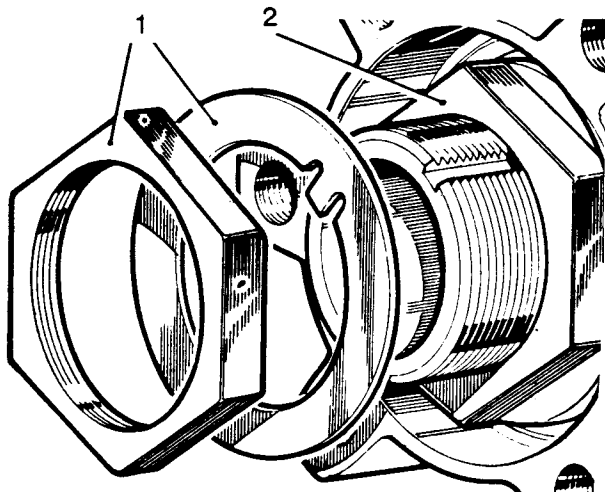

Fig J1.1
- (1) Refer to Fig J1.1. Remove the locknut and lockwasher (1) from the hub.
- (2) Spin the hub vigorously, causing the bearing roller to settle in the tapered races, producing maximum end-float conditions.
- (3) Tighten the adjuster nut (2) sufficient only to take up any obvious end-float. It is necessary to spin the hub every time before checking the end-float, as moving the hub laterally will settle the rollers, affecting the measureable end-float.
- (4) Fit the lockwasher and nut, tighten the nut but do not engage the lockwasher.